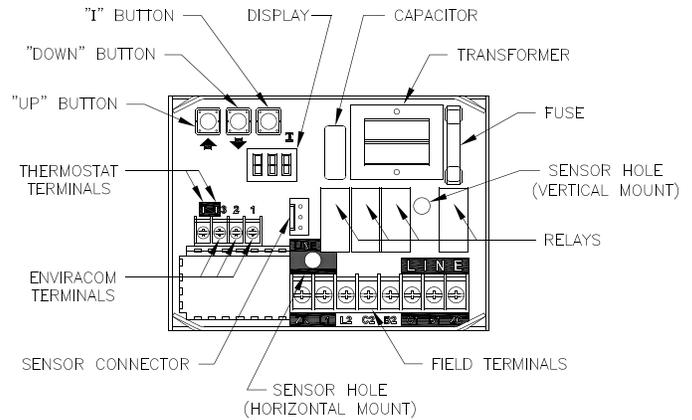

Figure 11-2: Intelligent Oil Boiler Control
- b. The boiler's sequence of operation is shown as Status Codes on Cold Start Boiler Control display. See Table 11-3 and Figure 11-2.
- d. If the thermostat is not satisfied and the Operating Setpoint (SP) is reached the system circulator will continue to operate and the burner will stop. When the boiler water temperature drops below the setpoint less the differential setting the burner will restart.
- f. When an indirect water heater aquastat call for heat is wired to the "ZR" terminal the Boiler Control starts a domestic hot water circulator connected to the "ZC" terminal and when the boiler temperature is less than Operating Setpoint (SP), the Cold Start Boiler Control energizes the oil primary to turn on the burner without circulator pre-purge delay.
- b. The boiler's sequence of operation is shown as Status Codes on Warm Start Boiler Control display. See Table 11-3 and Figure 11-2.